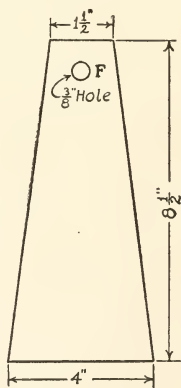

FIG. 75. — Upright.
**The Trolley-Line**, or overhead cable, runs around the wheels of two supports, one at either end of the track. Prepare four pieces of wood the shape and size of that shown in Fig. 75 for the uprights of these supports, and make two wheels three inches in diameter. The wheels may be marked out with a home-made compass — a pencil tied to the end of
around the edge as shown at *C*, Fig. 77. Bore a three-eighths-inch hole through each upright at *F*, Fig. 75, and another through the center of each wheel. Now